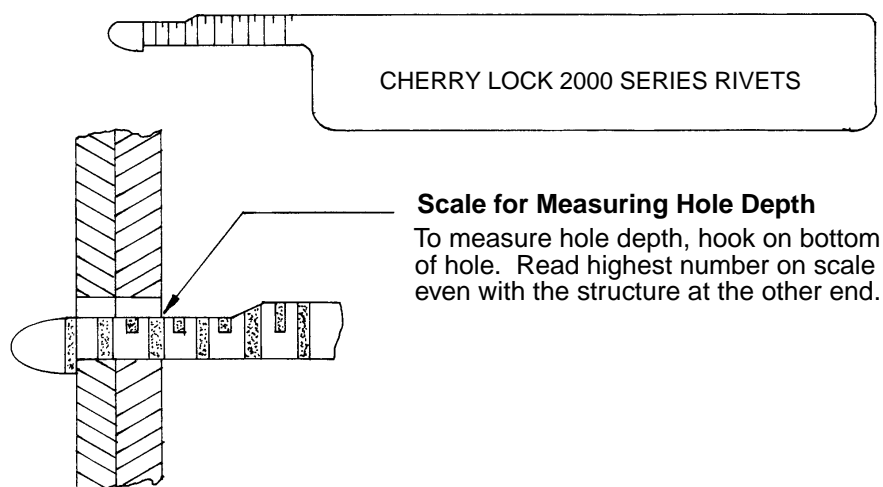

Figure 4 - Cherry Lock Rivet Grip Gauge
- 5.4.1 Use only the fastener type, diameter and grip length specified on the engineering drawing. If the grip length is not specified, measure the combined material thickness using a grip gauge and determine the required rivet length accordingly (see Figure 4). Always read to the next higher number (i.e., if the reading is past the **end** of the -3 marking then use a -4 fastener).